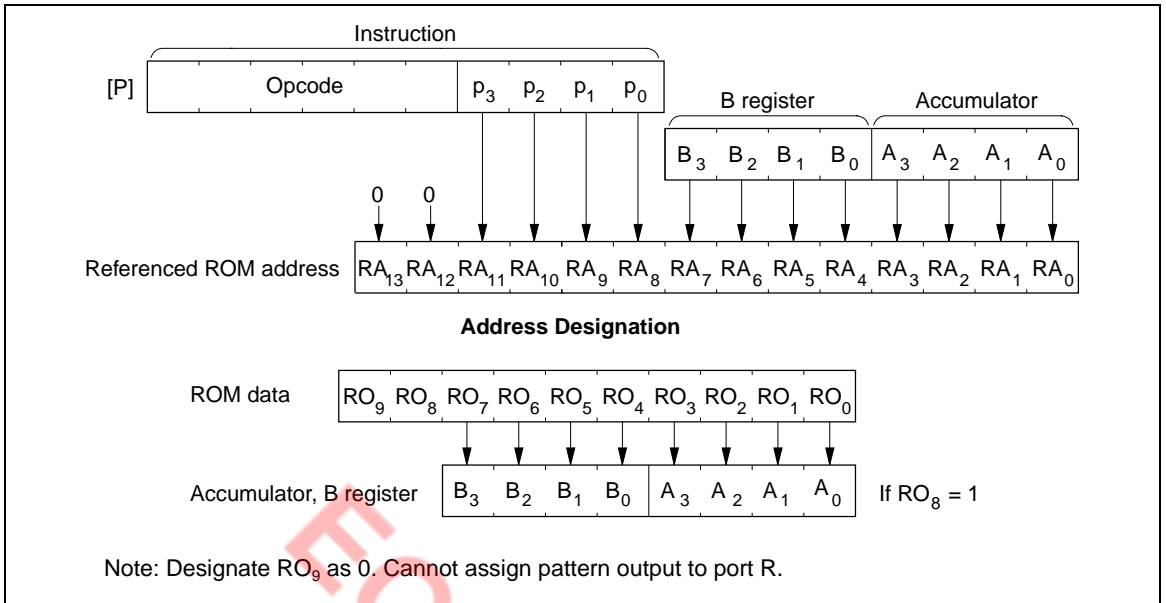

Figure 77 P Instruction
**P Instruction:** ROM data addressed in table data addressing mode can be referenced with the P instruction as shown in figure 77. If bit 8 of the ROM data is 1, eight bits of ROM data are written to the accumulator and the B register. If bit 9 is 1, eight bits of ROM data are written to the R1 and R2 port output registers. If both bits 8 and 9 are 1, ROM data is written to the accumulator and the B register, and also to the R1 and R2 port output registers at the same time.